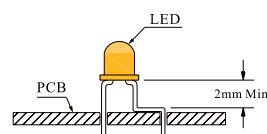

Fig. 5
1. Maintain a minimum of 2mm clearance between the base of the LED lens and the first lead bend. (Fig. 5 & 6)